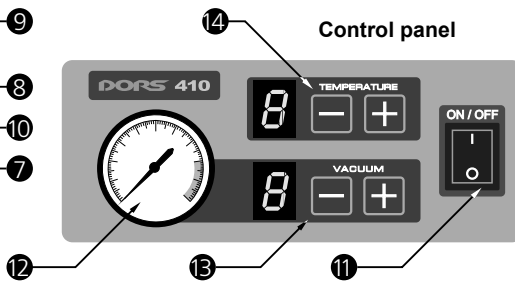

Figure 4
Power the device on using the power switch ⓫ (see Fig. 4).
4. Using the button ❶ set the vacuum level to **5** (see Fig. 4);
5. Using the button ❷ set the heating level to **5** (see Fig. 4);
- b. If the banknotes are stacked in the pack rather loosely and the pack tightness is not sufficient increase the vacuum level using the button **13** (see Fig. 4);
- c. If a banknote is deformed in the pack (e.g. the angles are jammed) decrease the vacuum level using the button **13** (see Fig. 4);
- b. If after heat sealing the thumb of the pack is hardly or cannot be pulled off increase the heating level using the button **14** (see Fig. 4);
- c. If after heat sealing the thumb of the pack drops off by itself decrease the heating level using the button **14** (see Fig. 4);
1. Set the vacuum level you want to save using the button **13** (see Fig. 4);
2. Set the heating level you want to save using the button **14** (see Fig. 4);
2. Simultaneously push “+” and “-” of the heating level buttons ⑭ (see Fig. 4). The display shows “P” and the program number;
3. Using the vacuum level buttons ⑬ set the desired program number;
4. Push “+” of the heating level buttons ⑭ (see Fig. 4) one time to view the vacuum and heating level presets of the current program;